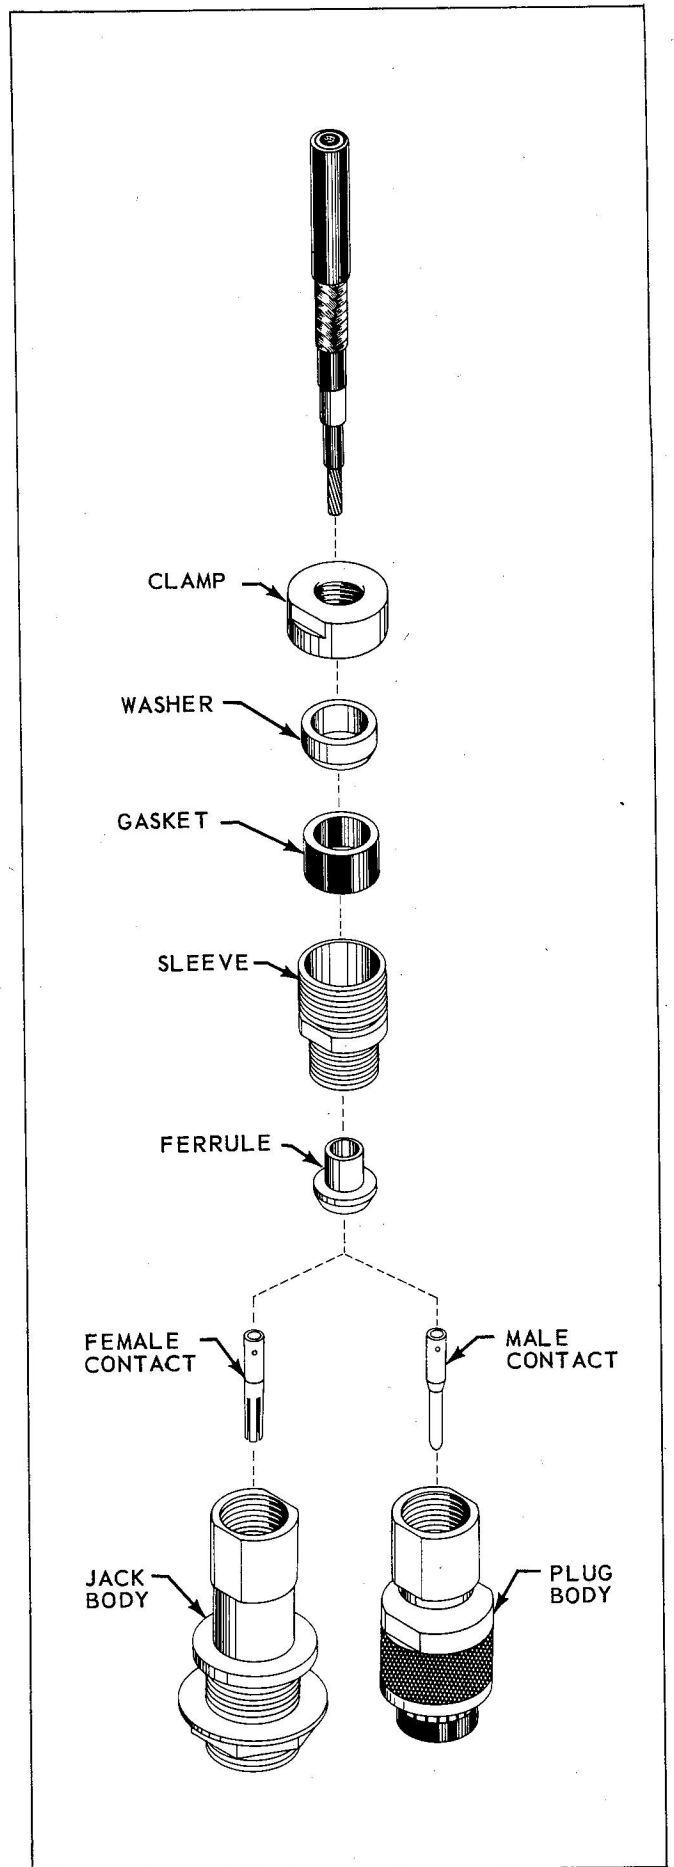

Figure 4-35. Pulse Connector - Rubber
b. Rubber Insert Version (see Figure 4-35) - consists of a plug or jack body assembled to coaxial cable with clamp, washer, sleeve, gasket and ferrule. Plug UG-180A/U and Jack UG-182A/U are typical of this version.
a. Disassemble nut, washer, gasket, sleeve and ferrule from plug or jack body. See Figure 4-35.